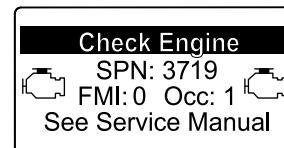

Figure 58
- If a recovery regeneration is needed, the InfoCenter displays engine warning SPN 3719, FMI 16 (Figure 58) and the engine computer derates engine power to 85%.